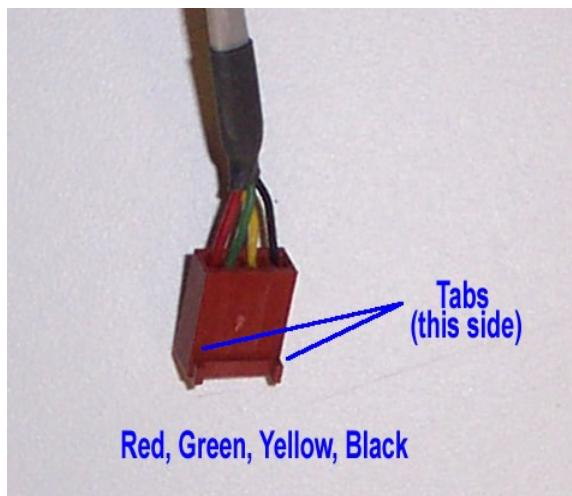

Figure 61: SRF04 Ultrasonic Header Hookup
10. Slide the heat shrink back onto the end of the wire and shrink it as shown in Figure 61.
12. Install the 4 crimps into the connector as show in Figure 61.